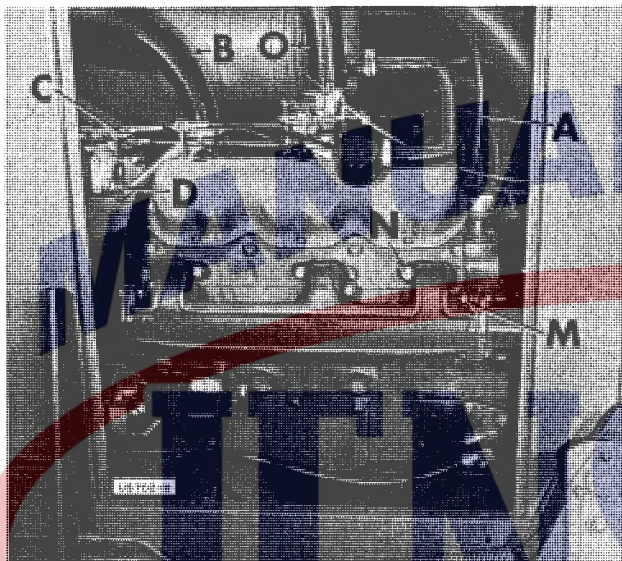

Fig. 4
2. Detach the battery ground cable from the L.H. cylinder head "A", Fig. 4; and also positive cable from battery.
4. Detach upper radiator hose from water manifold "B", Fig. 4.
5. Remove the dry air cleaner assembly "O", Fig. 4 by detaching the air intake tube from the top of the carburetor then removing the four bolts which attach the air cleaner mounting bands to the brackets. Detach the precleaner hose and remove the assembly through the top door.
6. Detach governor-to-throttle control rod at both ends and remove "C", Fig. 4.
7. Detach throttle cable from governor arm and from governor bracket "C", Fig. 4.
8. Loosen the governor drive belt and remove the governor mounting bracket "D", Fig. 4. The governor may remain with the bracket.